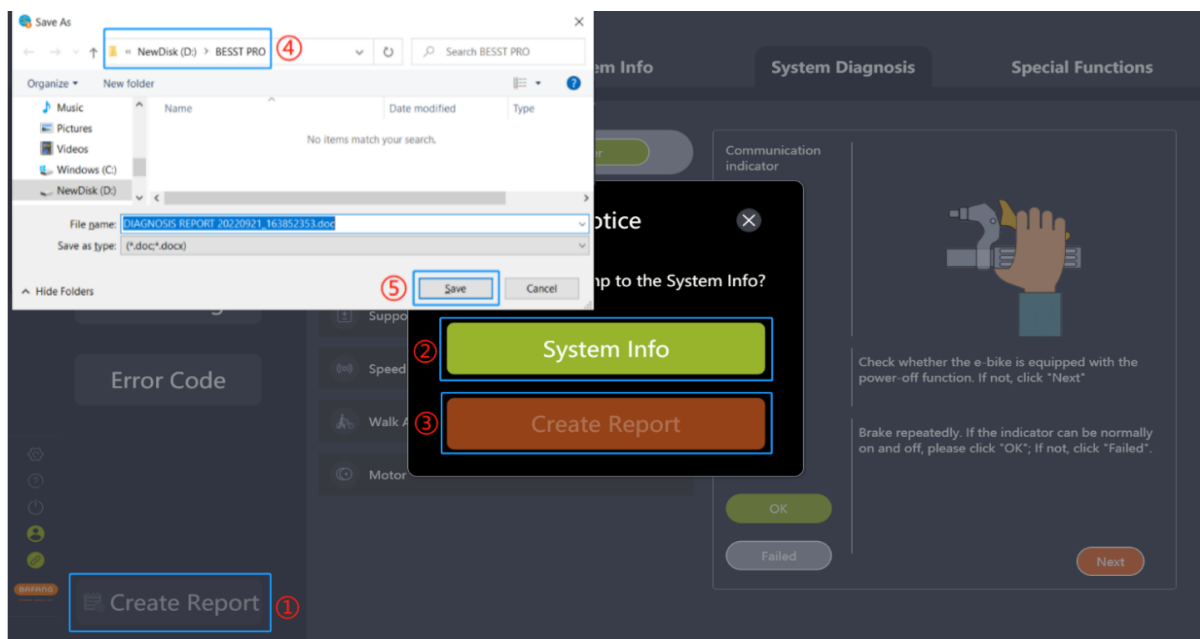

Fig. 6-6 System diagnostics interface reports creation
- (1) Click "Create Report", and a pop-up window will prompt "Do you want to jump to System Diagnostics?" (Fig.6-6).
- (2) For system information reading, click the "System Info" icon to jump to the system diagnosis interface.
- (3) Click the "Create Report" icon.
- (4) Select the local save path.
- (5) Click the "Save" icon to generate a PDF report.